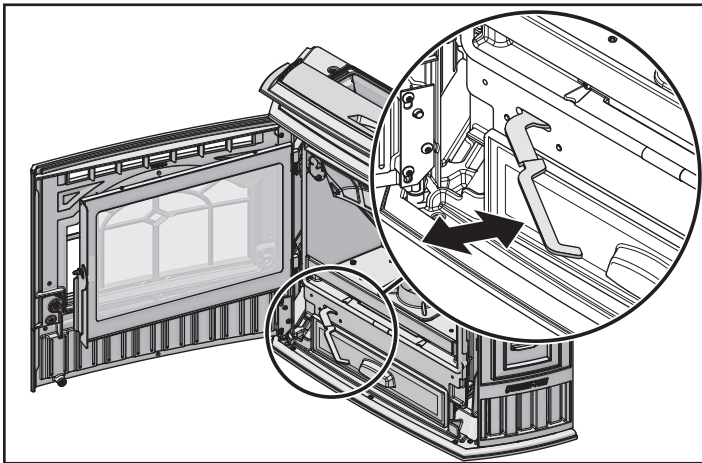

Figure 22.2
- Pull fire pot floor cleaning lever two times until the ash falls into the ash pan below (**Figure 22.2**).